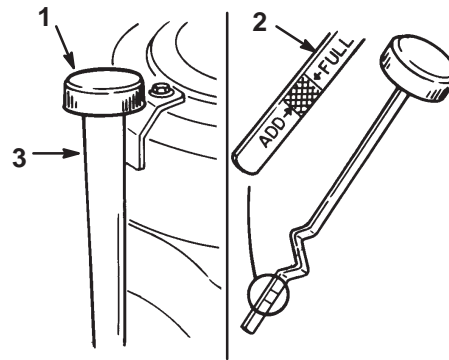

Figure 13
3. Clean around the oil dipstick (Fig. 13) so dirt cannot fall into the filler hole and damage the engine.
4. Unscrew the oil dipstick and wipe the metal end clean (Fig. 13).
5. Screw the oil dipstick fully onto the filler tube (Fig. 13). Unscrew the dipstick again and look at the metal end. If the oil level is low, slowly pour only enough oil into the filler tube to raise the level to the Full mark.
7. Slowly pour approximately 80% of the specified amount of oil into the filler tube (Fig. 13). Check the oil level; refer to Checking the Oil Level, page 18, steps 4-5.
5. Slowly pour approximately 80% of the specified amount of oil into the filler tube (Fig. 13). Now check the oil level; refer to Checking the Oil Level, page 18, steps 4 and 5.